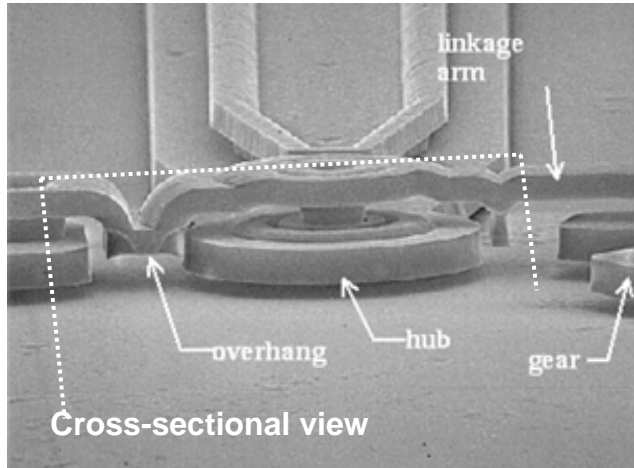

Figure 1
- a. (10 points). Show the cross sectional fabrication steps of figure 1 (include deposition and etching methods)